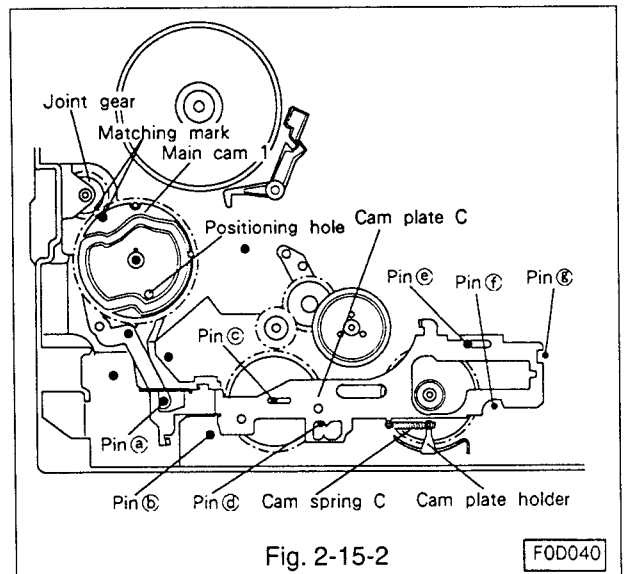

Fig. 2-15-2
- C. With care not to move the lever RS and lever C, assemble the main cam 1 to the shaft by lining the matching mark of the joint gear with the positioning hole of main plate. Secure the main cam 1 with the grip ring. (Refer to Fig. 2-15-2.)
- D. Assemble the thrust washer to the pin(c) shown in Fig. 2-15-2, and install the cam plate C so that the corresponding positions of the plate shall match the pins[(a) to (g)].
- E. Fasten the cam spring C to the cam plate C and the cam plate holder. (Refer to Fig. 2-15-2.)